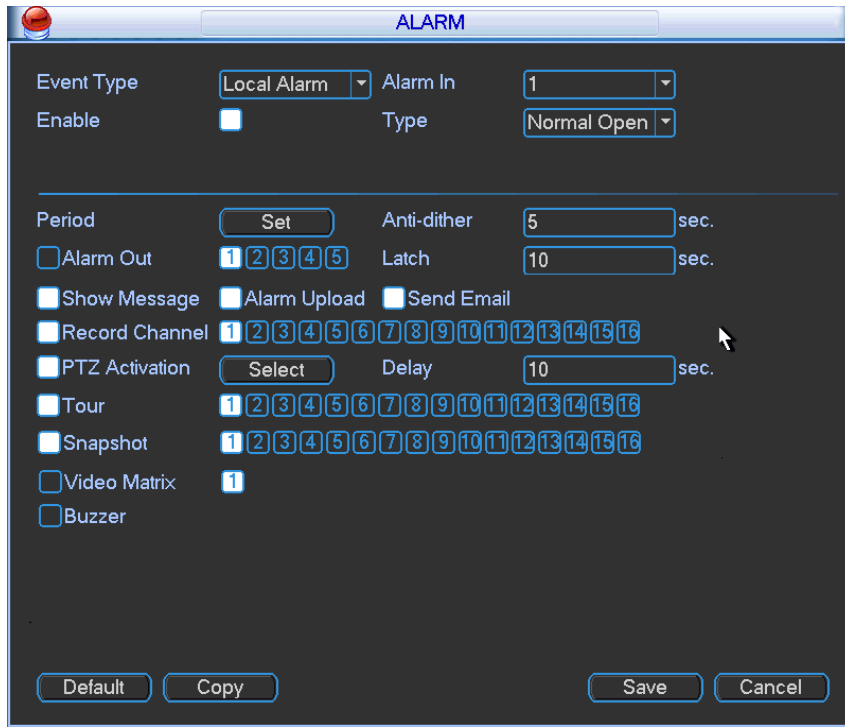
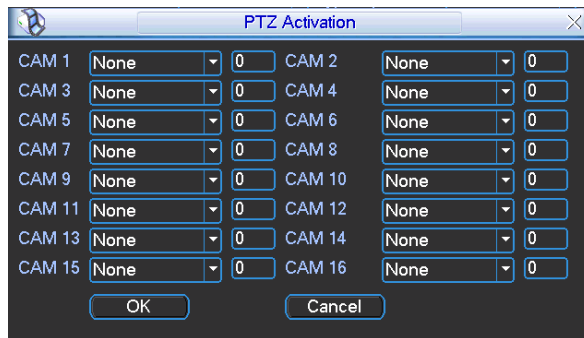

Figure 4-33
Figure 4-34
In the main menu, from Setting to Alarm, you can see alarm setup interface. See Figure 4-33.
Alarm interface is shown as below. See Figure 4-33.
- ✂ In Figure 4-33, click “select” button, you can see an interface is shown as in Figure 4-34. Here you can set the activation operation such as preset tour, pattern and enable.